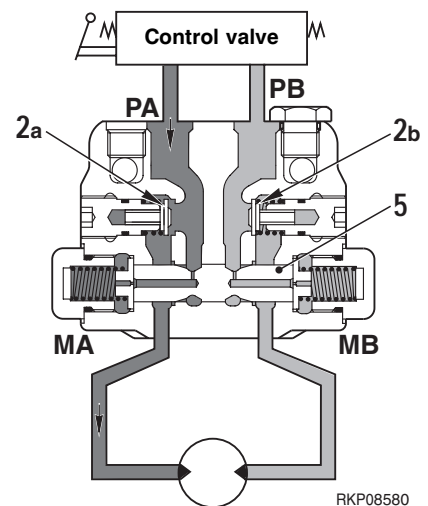

Fig. 2
However, the motor outlet Port is closed by check valve (2b) and spool (5), so the pressure at the supply side rises. (Fig. 2).
- The pressurized oil at the supply side flows from orifice **E1** in spool (5) to chamber **S1**, and when the pressure in chamber **S1** goes above the spool switching pressure, spool (5) is pushed to the right in the direction of the arrow.